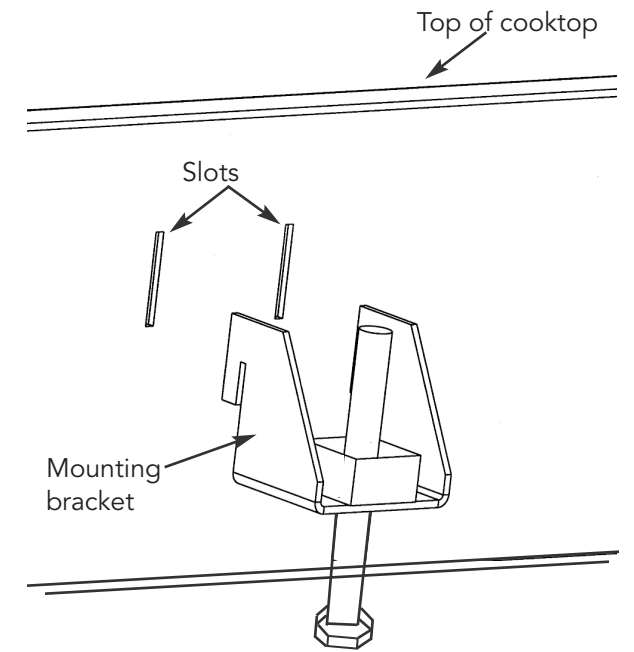
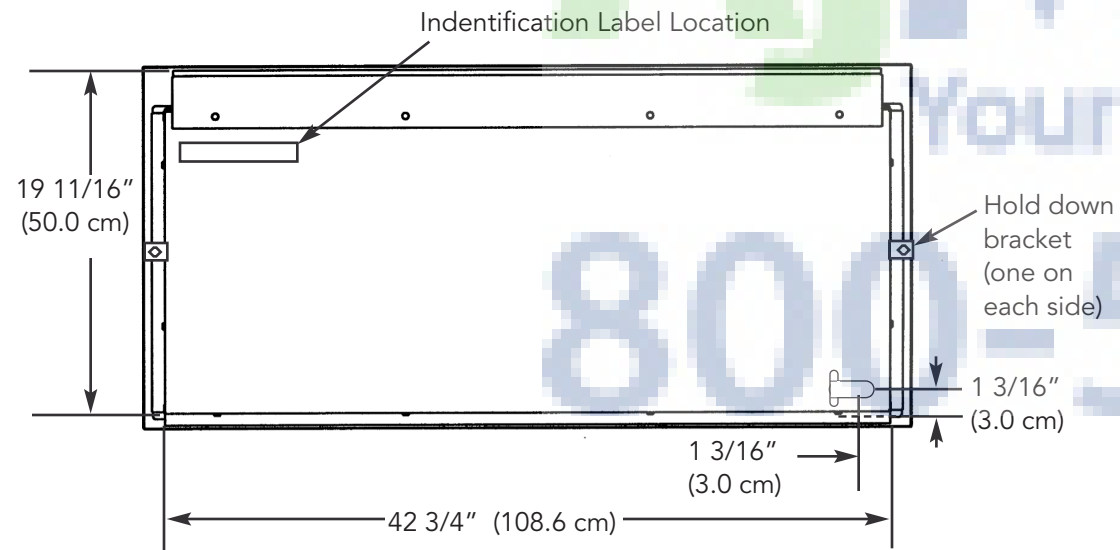

Figure 1
Figure 2
Two (2) hold brackets will be provided with your unit. After cooktop has been installed into the countertop, locate the bracket in the slots as needed (Figure 1). Place a bracket in the slots and lower until the bracket catches. (Figure 2). Use the bolt to tighten the cooktop to the countertop. (Figure 3)